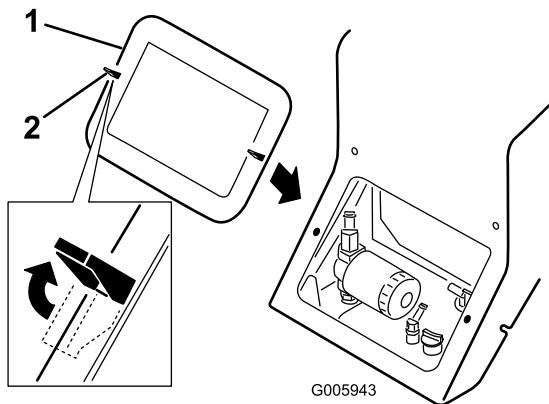

Figure 22
4. Release the 2 locking tabs (Figure 22, top, left tab illustrated).